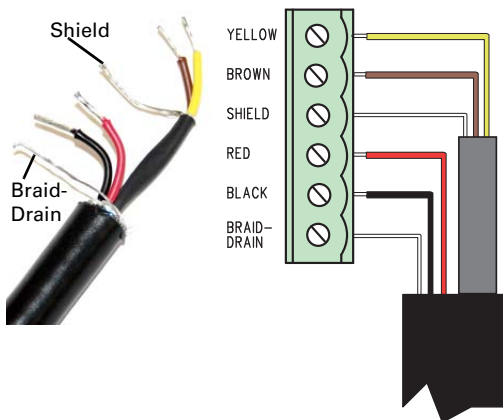

Figure 3-5 TIENet Device terminal connections
4. Attach the wire ends to the terminal strip as shown in Figure 3-5, then press the terminal strip back down into its socket on the case board, as shown in Figure 3-6, taking care not to strain any wire connections. Gently tug each wire when finished, to verify secure connection to the screw terminals.